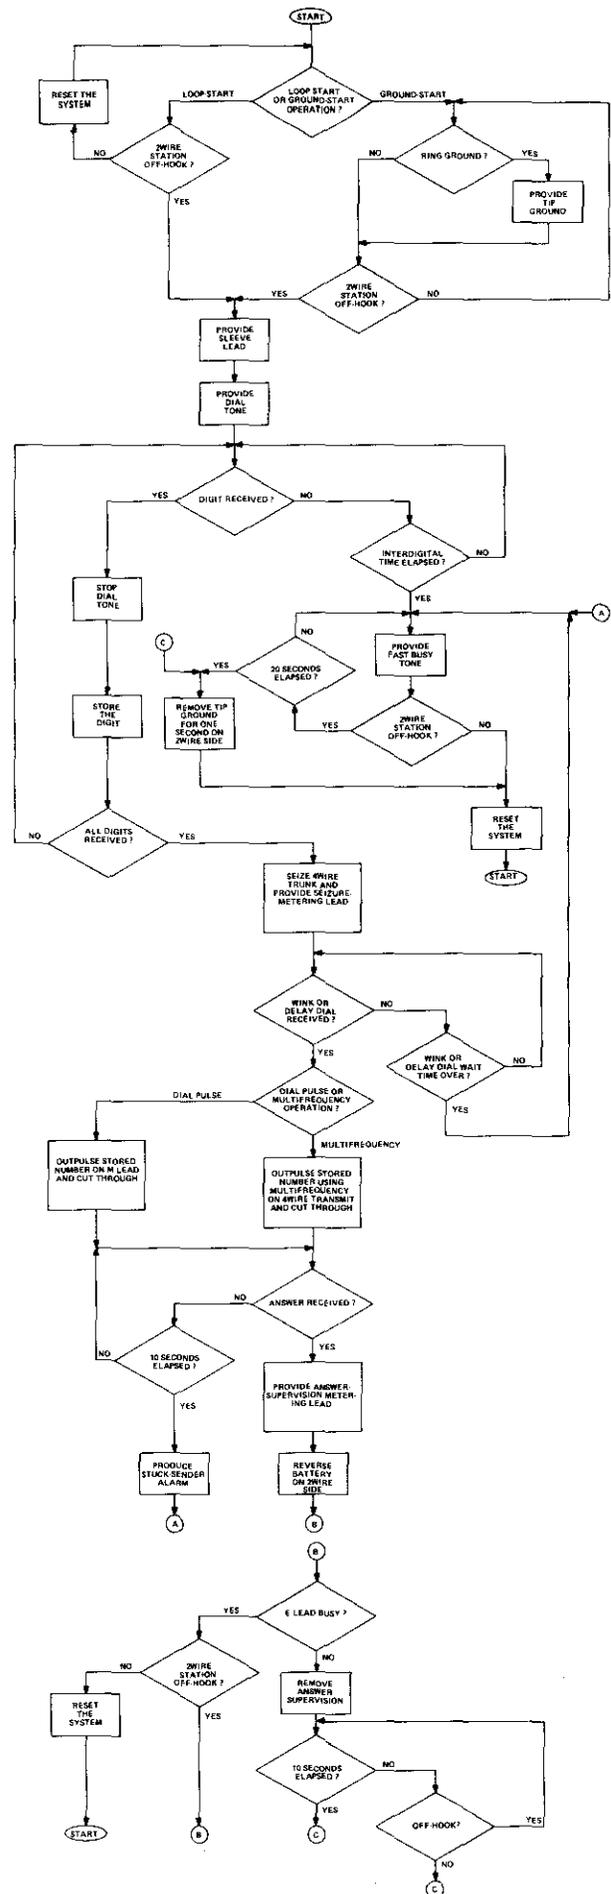

figure 7. 6991 function sequence chart
4.01 To provide the clearest possible understanding of the operation of the 6991 2Wire-to-4Wire E&M OUTWATS Adapter module, a function sequence chart (figure 7) that illustrates sequential operation of the module in loop-start and ground-start operation is presented in lieu of a more conventional circuit description. This chart is arranged in a computer-programming flowchart format. Lines with arrowheads indicate the flow of events. A diamond-shaped block indicates that a